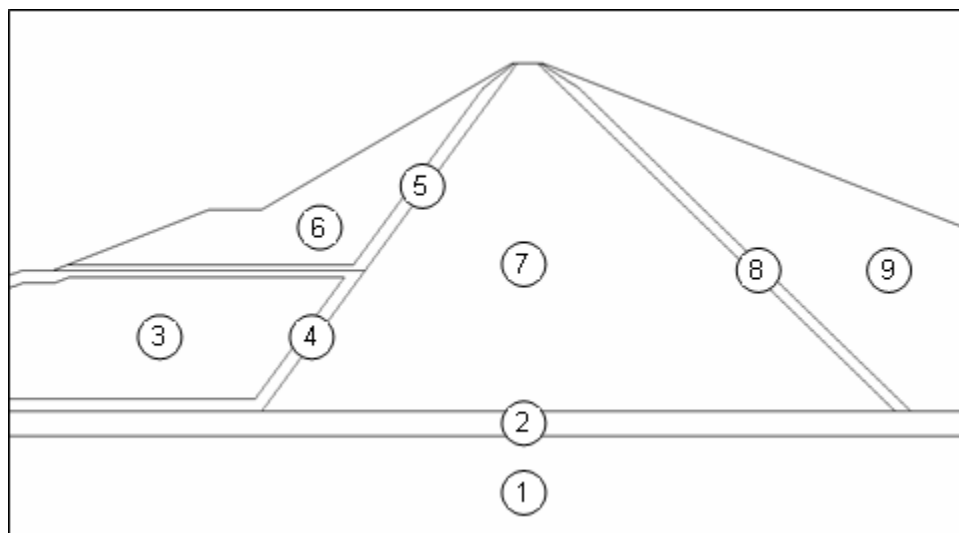

Figure 12. Polygons and Their Material IDs
- Double-click on the central core of the dam which is zone 7 in Figure 12 below.